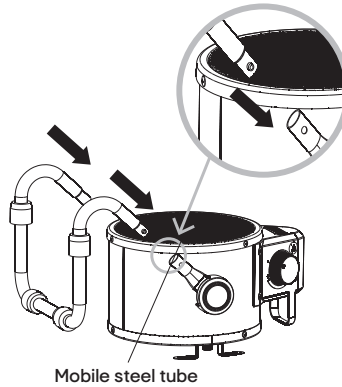

Figure 2
2. Put the machine on a relatively flat table, insert the steel tube base to the mobile steel tube along the arrow direction and press the clip system with the right and left fingers. Insert the steel tube base into the mobile steel tube. Mounting is finished after both clip system enter the mobile steel tube holes, as shown in Figure 2.